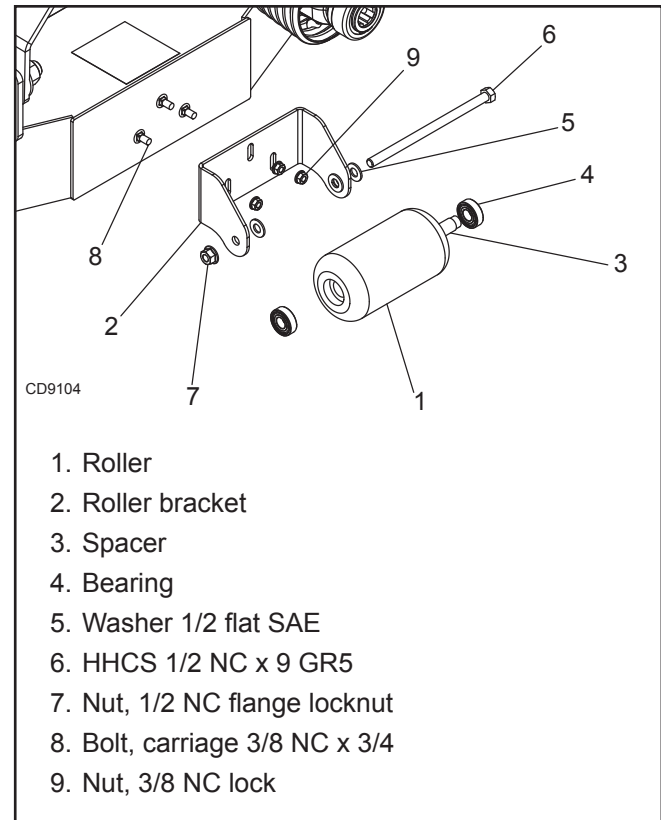

Figure 34. Front Roller Installation
1. Install three carriage bolts (8) through front roller bracket (2) as shown in Figure 34. Install flanged lock nuts (9) loosely. Do not tighten.
2. Align roller bracket (2) with keyhole slots in the front of the mower deck. Pass head of carriage bolt thru round hole and slide toward square end of keyholes. Tighten flanged lock nuts (9) to 35 lbs-ft.
3. Place roller (1), spacer (3), bearings (4), and washers (5) in roller bracket as shown in Figure 34.
4. Insert cap screw (6) through bracket and roller.
5. Secure with flanged lock nut (9). Do not overtighten; roller must spin freely.